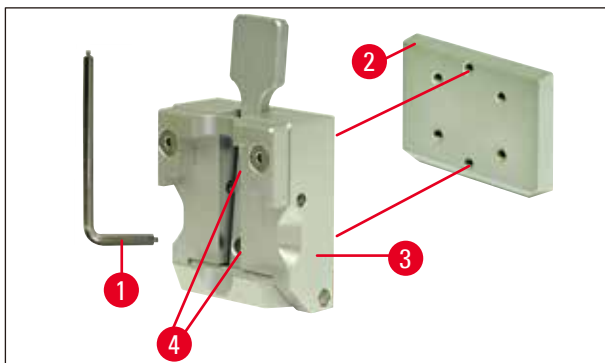

Fig. 10
3. To remove the dovetail guide (→ Fig. 10-2) from the specimen clamp (→ Fig. 10-3), unscrew the two screws (→ Fig. 10-4) from the dovetail guide (→ Fig. 10). Again, use the Allen key with handle, No. 3.